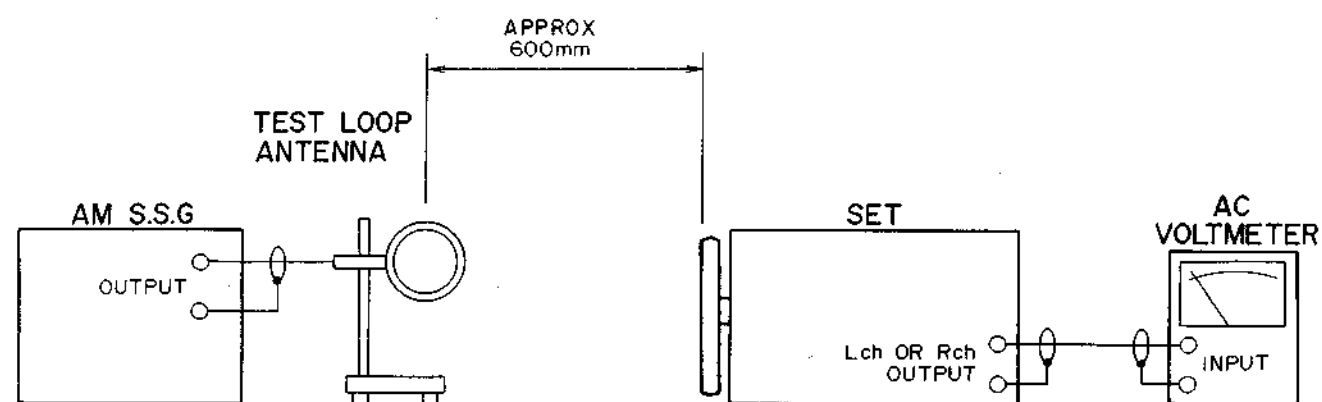

Fig. 6-2 Instrument Connections for AM (MW, LW) Section Adjustment
### 6-5 LW ADJUSTMENT (for AT-A2L) (Refer to Figs. 6-2 and 6-4)
### 6-6 AM (MW) ADJUSTMENT (Refer to Figs. 6-2 and 6-4)